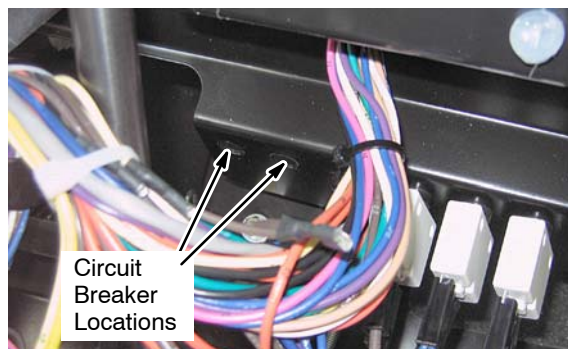

Fig. 4
2. Remove the two circuit breaker plugs from the instrument panel (Figure 4).